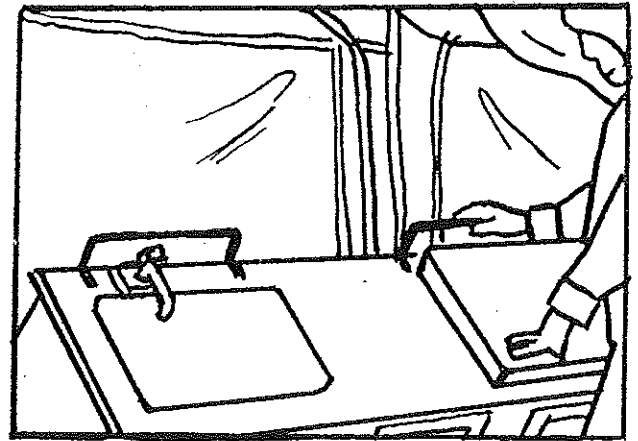

FIGURE 24
37. Enter the trailer. Grasp the towel rack on the galley unit. Lift up and rotate 180° toward the outside of the trailer. See Figure 24.